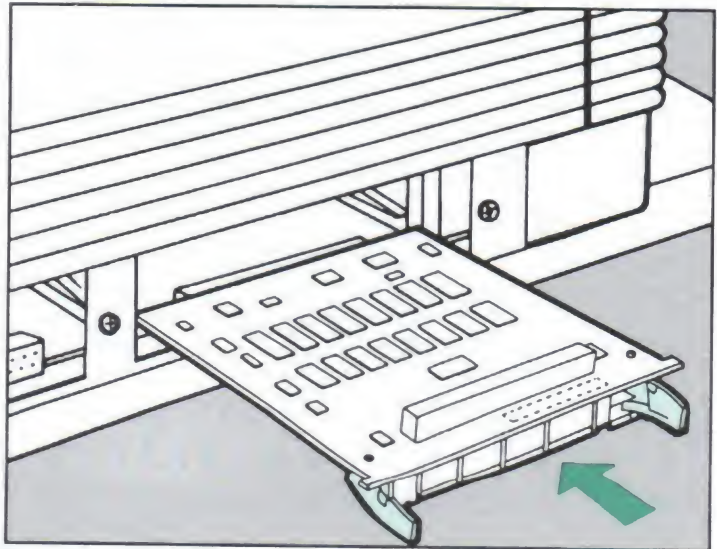

Figure E-4. Installing a Board
5. To install the first board, remove it from its antistatic packaging (be sure to follow antistatic procedures previously mentioned) and hold it with the surface to which the components are attached *up*. Slide the board into the printer using the slot guide rails (see Figure E-4). Be sure the board is within the guide rails.